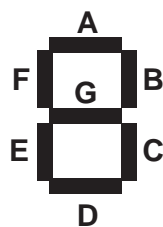

Figure 2
- D0...D17; D0 is the most left seven segment digit, the possible numbers displayed by one digit are shown in figure 2. The symbol () is only displayed at D13, D14, D16 and D17 when setting the clock.